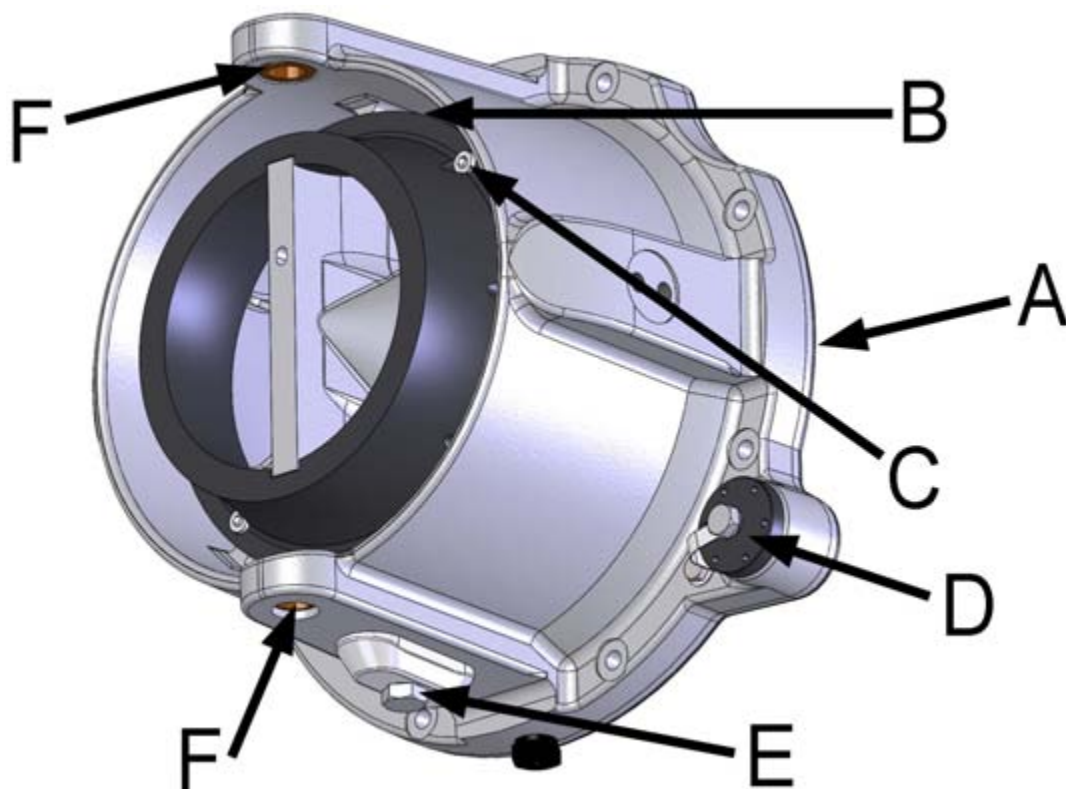

Figure 94. Stator's replaceable parts
- seals (figure 94, points A and B), seal B is between the choker and the stator
- choker (figure 94, point C).
- anodes (figure 94, points D and E)
- steering nozzle plastic bearings (figure 94, point F)
1. Remove the choker (figure 94, point C) fastening screws (6 pcs).